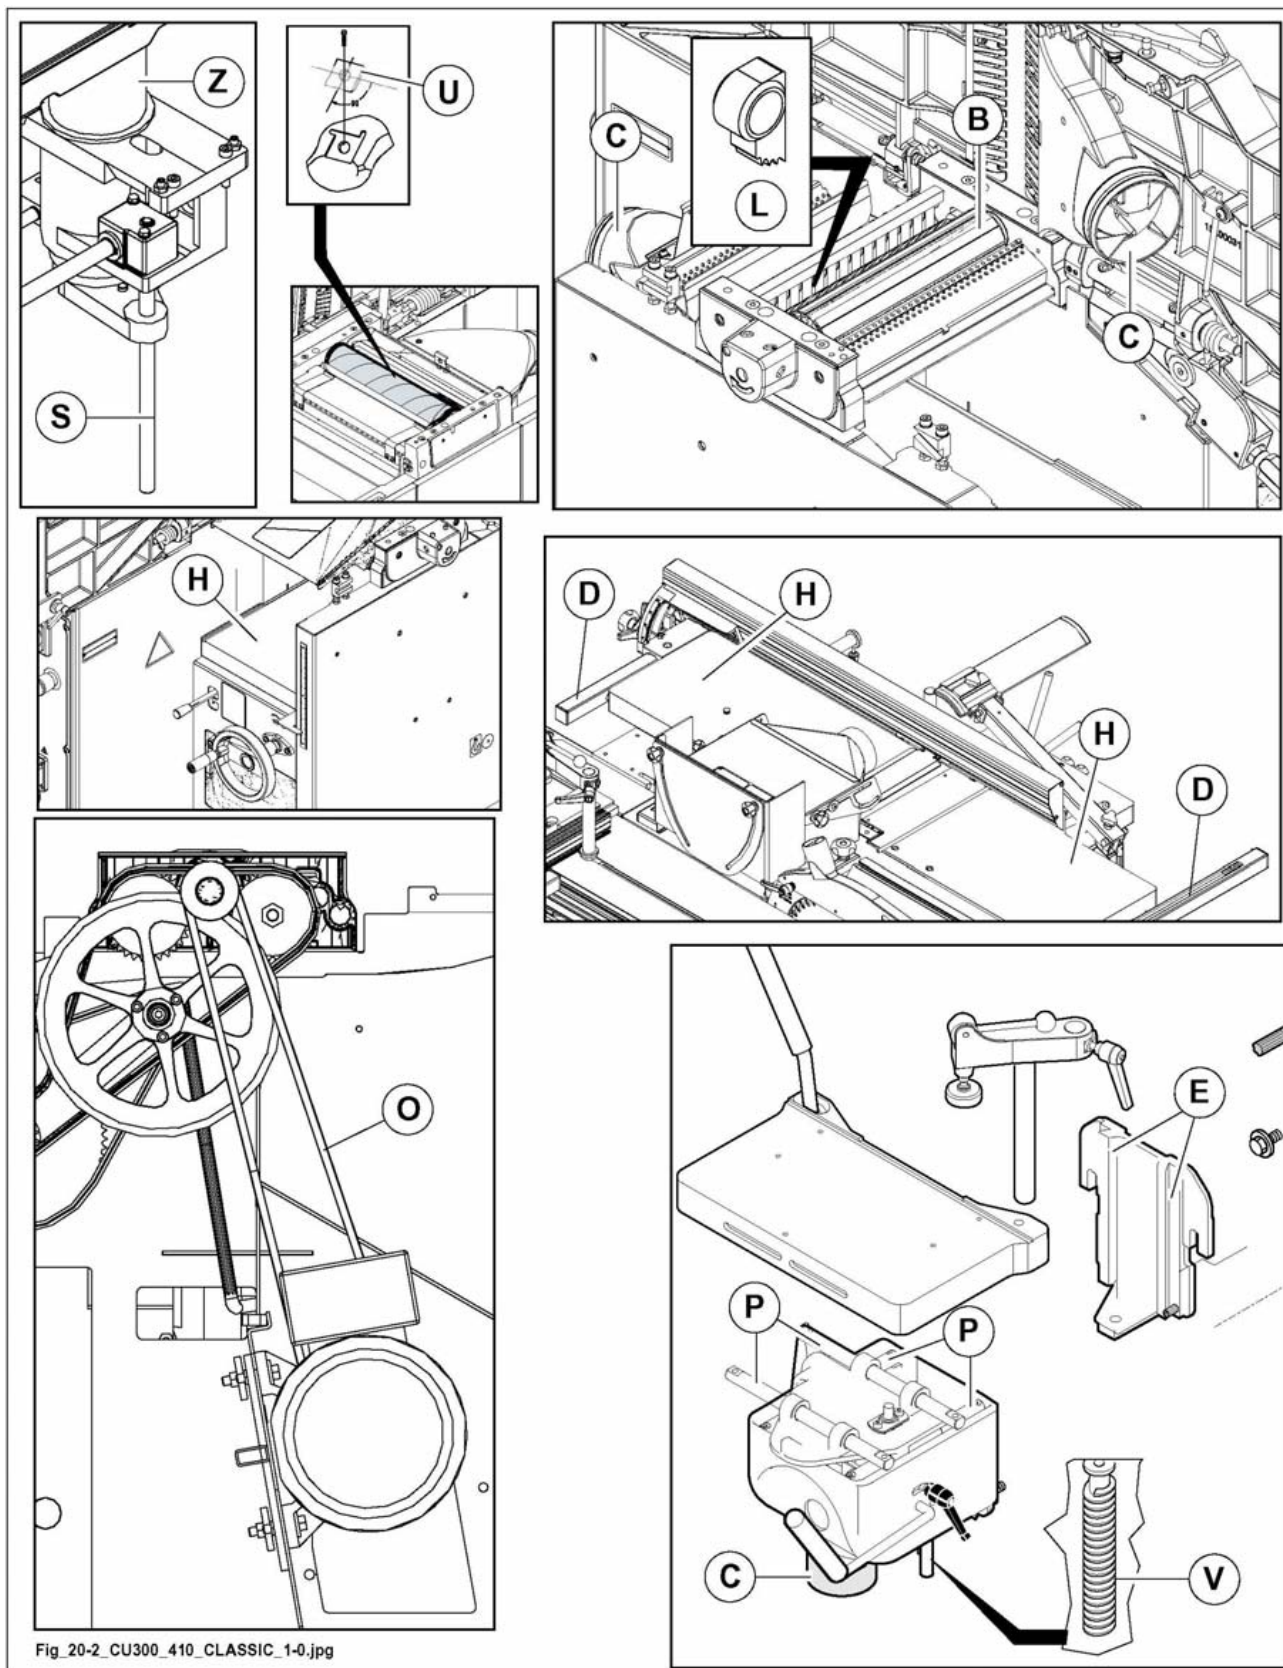

Fig. 20.2
- thicknessing table - Screw (S fig. 20.2) for height adjusting;